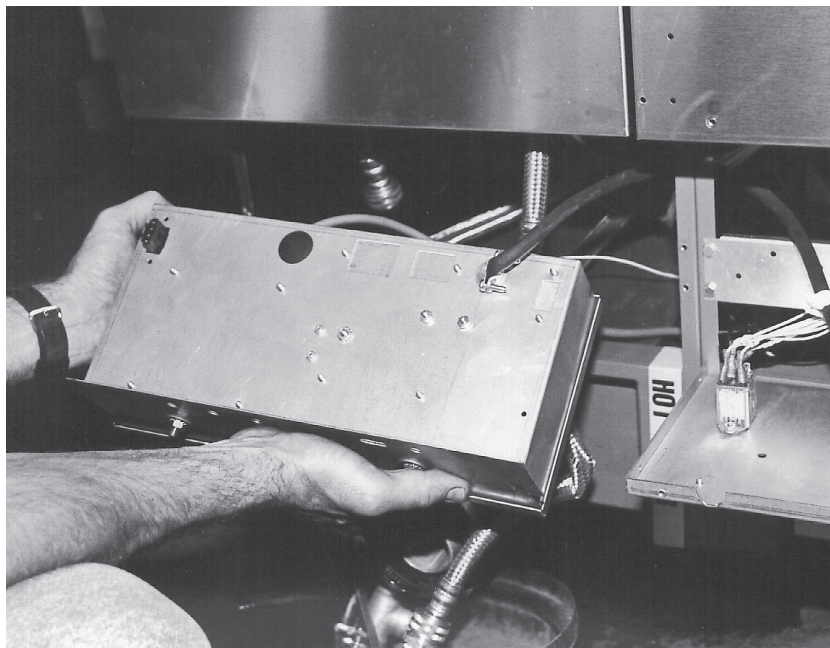

Fig. 80
5. Pull the cooker power supply box through the rinse station back and out of the appliance. (Fig. 80)